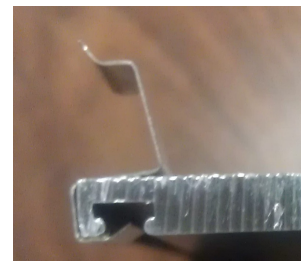

Figure B4:
3. As you continue rotating the screen clip it will snap into place as shown in Figure B4.